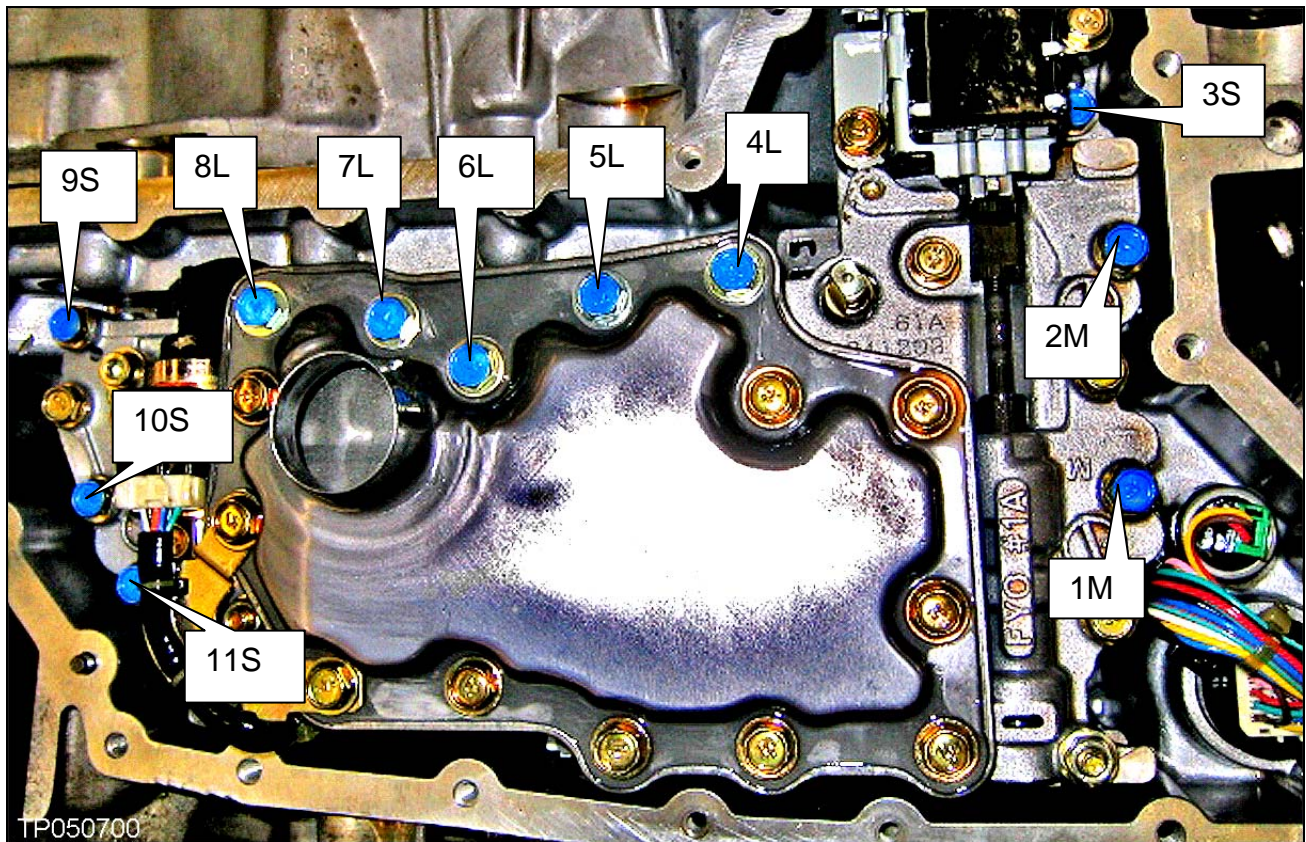

Figure 7
13. Remove the bolts attaching the valve body to the transmission (see Figure 7).
- There are eleven (11) bolts shown and numbered for convenience.
- There are three (3) different length bolts which are identified by:
18. Install finger tight the eleven (11) valve body bolts removed on page 7, step 13.
- Make sure the different lengths of bolts are installed in the correct holes (see page 7, Figure 7).
19. Torque the eleven (11) valve body bolts.
- Torque sequence as per Figure 7, page 7: 6-7-5-8-4-9-3-10-2-11-1.
- Refer to Figure 7 for bolt numbering and position.